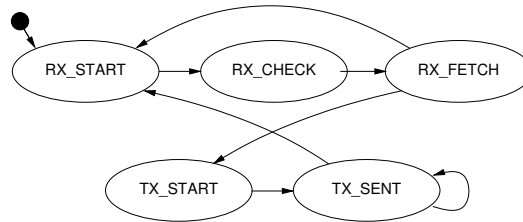

Figure 6.1: Transition Diagram of the EoE State Machine
**EoE State Machine** Every EoE handler owns an EoE state machine, that is used to send frames to the corresponding slave and receive frames from the it via the EoE communication primitives. This state machine is showed in Figure 6.1.